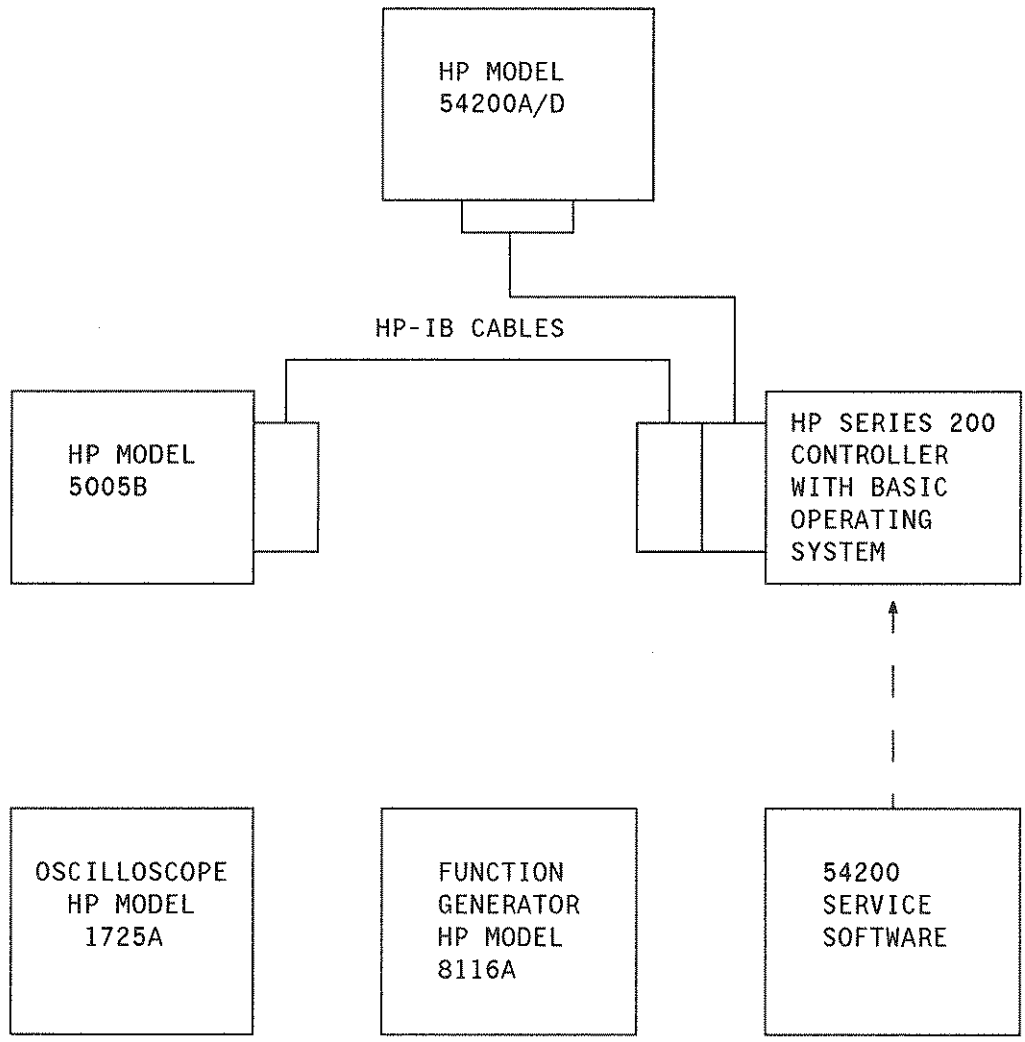

Figure 12-2. Faulty Board Isolation Setup
Troubleshooting faulty circuit boards in the 54200A/D is accomplished by connecting the 54200A/D to the test equipment as shown in figure 12-2 and loading the Service Software (HP Part No. 54200-12001) from the 54200A/D Product Support Kit (HP Part No. 54200-69501).
- a. Ensure equipment is connect to the 54200A/D as shown in figure 12-2.